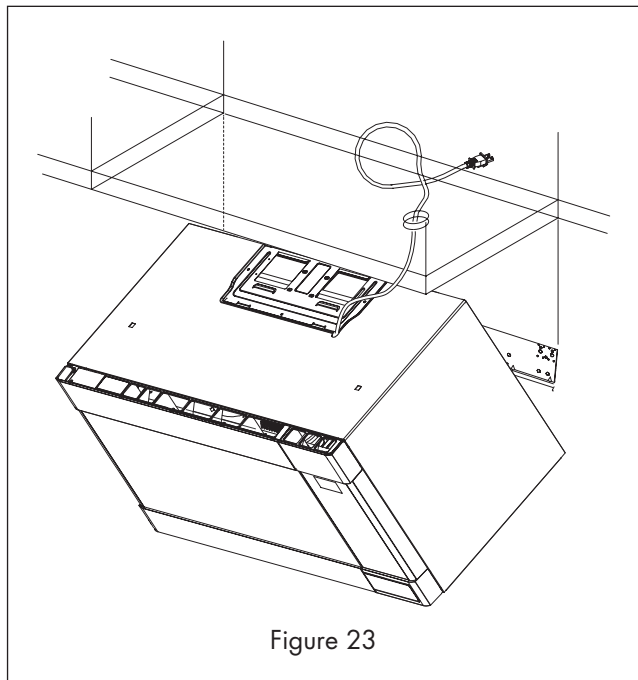

Figure 23
- Swing the unit upward to meet the top of the mounting plate and hold it securely. See Figure 23.